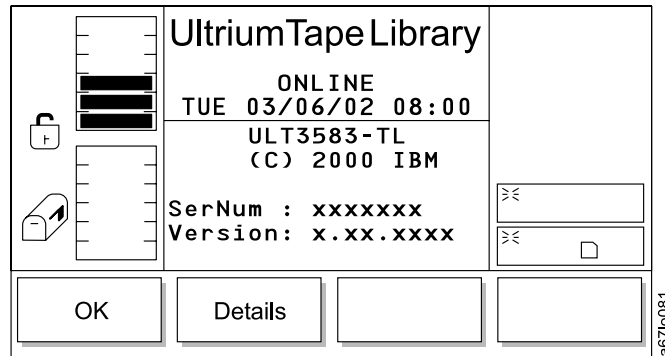

Figure 68. About Menu
- To view the level of firmware currently loaded on the library, select **More** → **About**. The About Menu displays (see Figure 68).
After downloading firmware, verify the installation by using the inquiry command available on the utilities menu of your server, or from the library operator panel select **More** → **About** (to determine the version of the firmware in the About Menu; see Figure 68 on page 81).